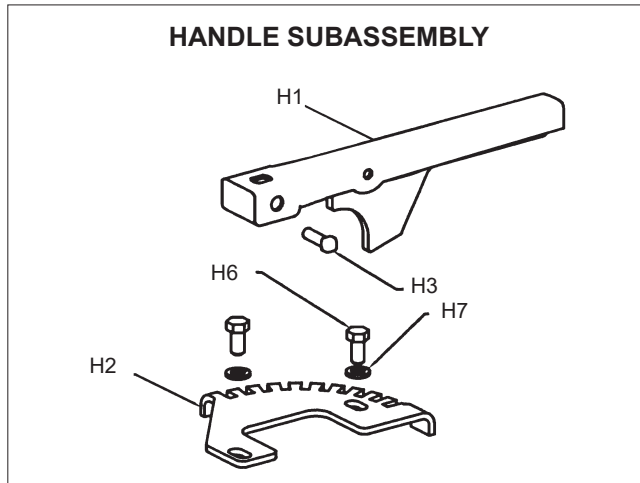

Figure 10.
2. 2-1/2" thru 6" (DN 65 thru 150) Valves - To ensure proper handle/shaft engagement, the handle must be mounted on the shaft such that it rests on the bottom of the shaft blade. (**See Figure 10**)